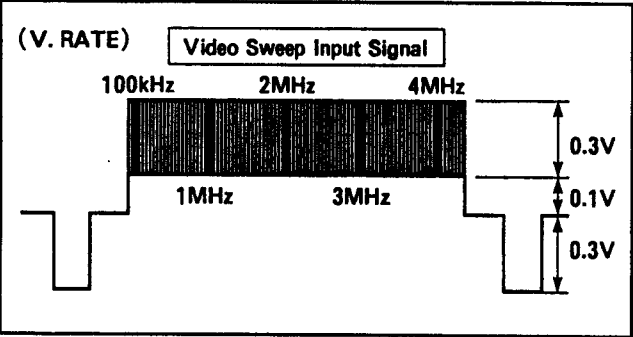

Figure E14
1. Set the sweep generator output as shown in Figure E14.